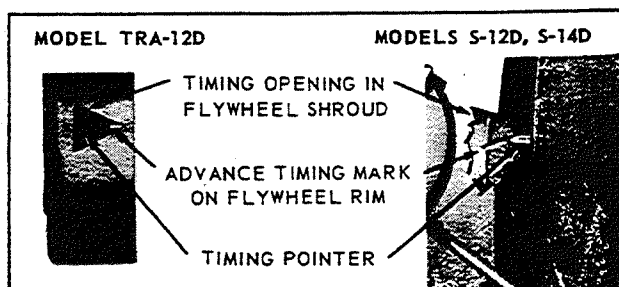

Fig. 3 Ignition Timing
**Model TRA-12D:** The flywheel is marked with a groove to indicate the 20° running spark advance. With the engine operating at 2500 R.P.M. or over, the *timing mark* (groove) on rim of flywheel will appear *in line with timing pointer, left view, Fig. 3*.
**Models S-12D and S-14D:** The timing groove on the rim of flywheel, Fig. 3 (right), is marked for the 18° magneto and battery ignition advance, and timing can be checked to this mark for solid state ignition while the engine is running at 1000 R.P.M. When checking the 20° *running spark advance*, at 2500 R.P.M. or over, the *timing mark* (groove) will appear about 1/8 inch above the *timing pointer*.